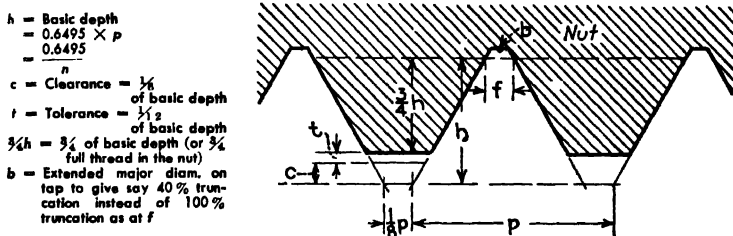

Fig. 17-2. Shows portions of a standard nut.
**NOTE:** What (a) and (b) mean practically is this: For any class of American National form of internal thread (nuts, etc.) the tap-size drill selected may be large enough to leave only three-quarters of a full thread (one-sixth reduced for clearance, plus one-twelfth tolerance, equals one-fourth of thread and leaves three-fourths of full thread) (see Fig. 17-2 and Table 8, page 532).